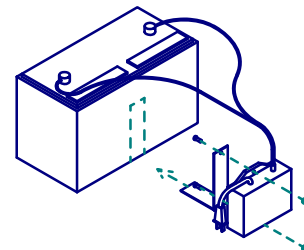

Figure 1. Charger Mounting
- a. Fasten the supplied mounting bracket to the charger with the two screws and two nuts as illustrated in Figure 1.